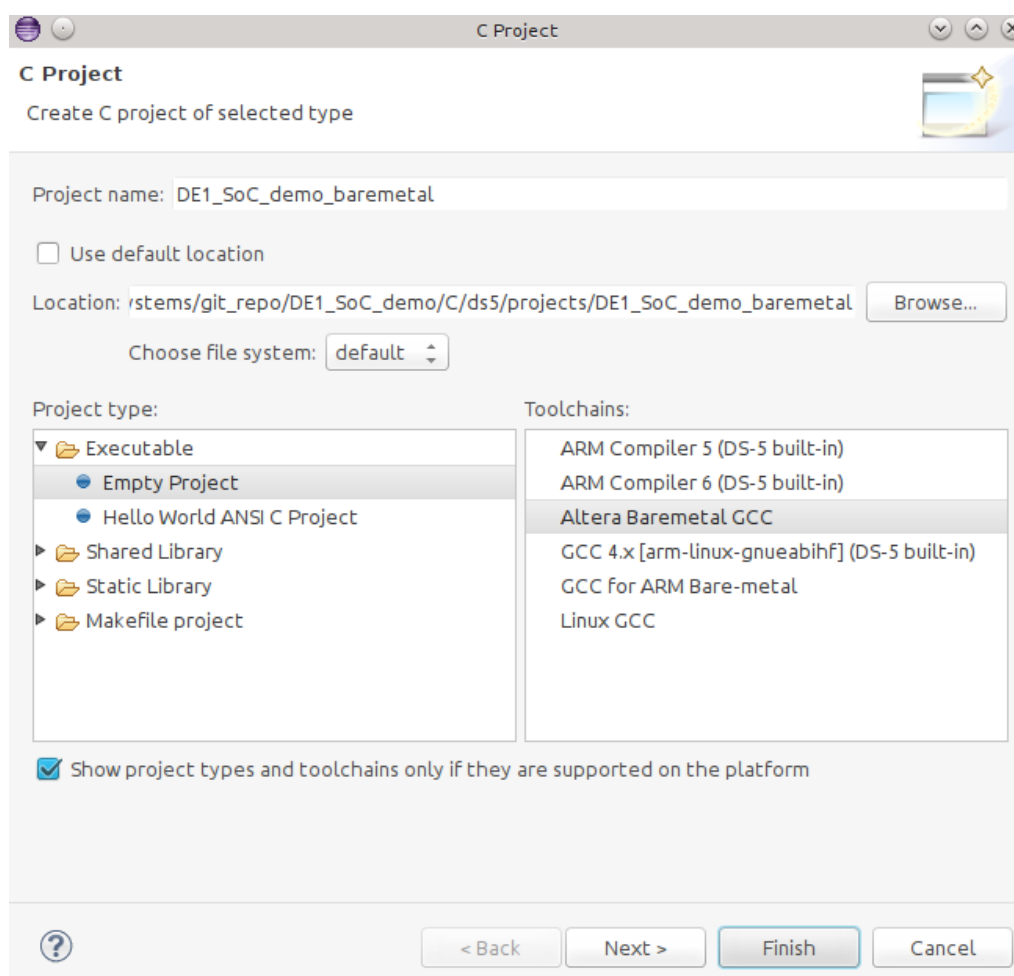

Figure 8-26. New C Project Dialog
- f. You should have something similar to Figure 8-26. Then, press the “Finish” button to create the project.